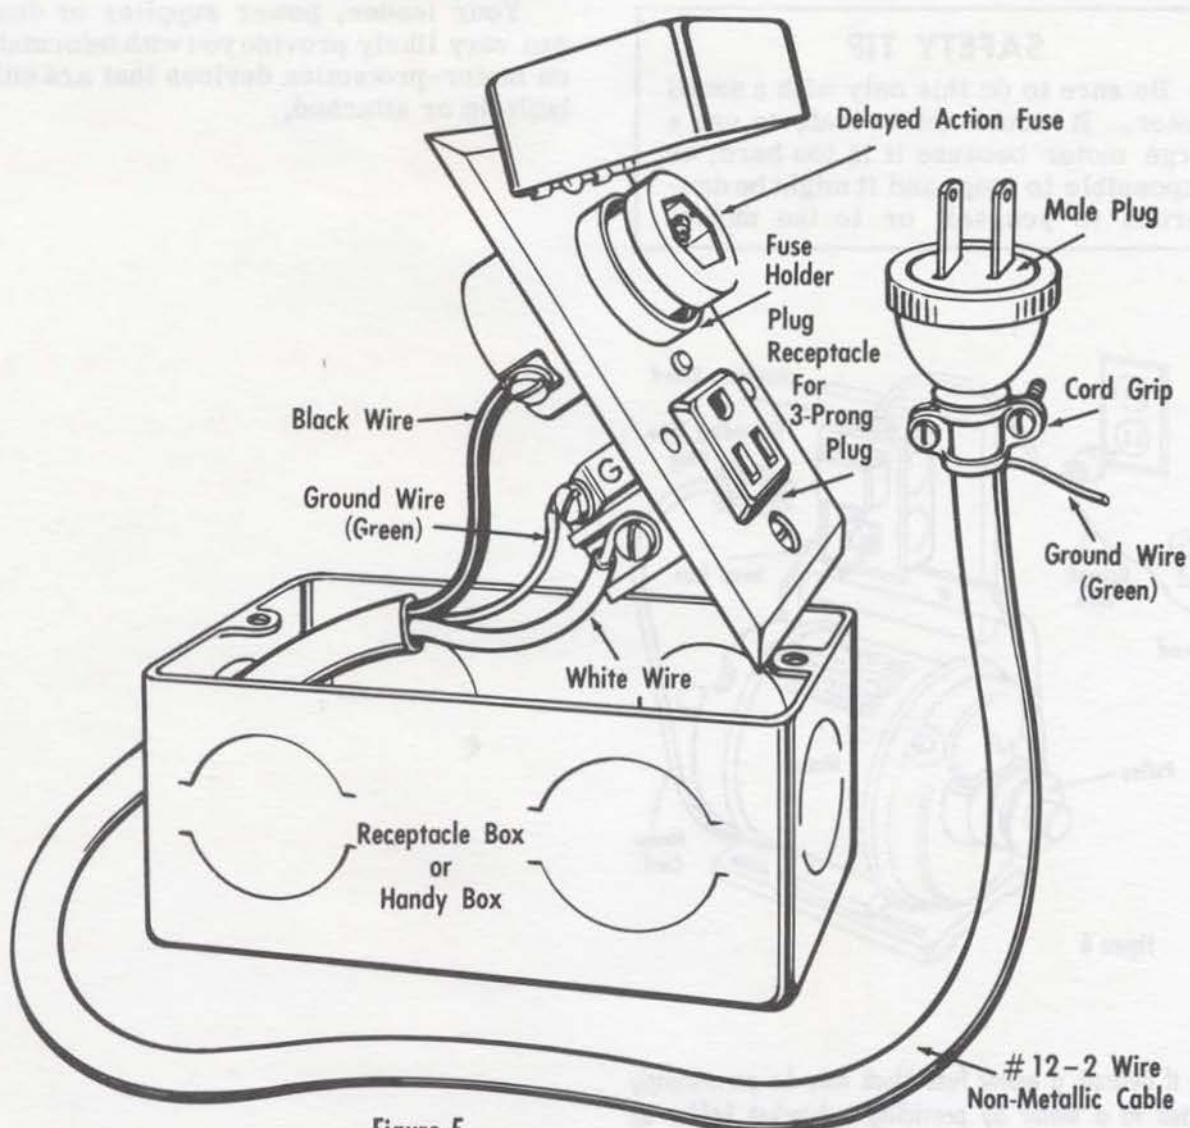
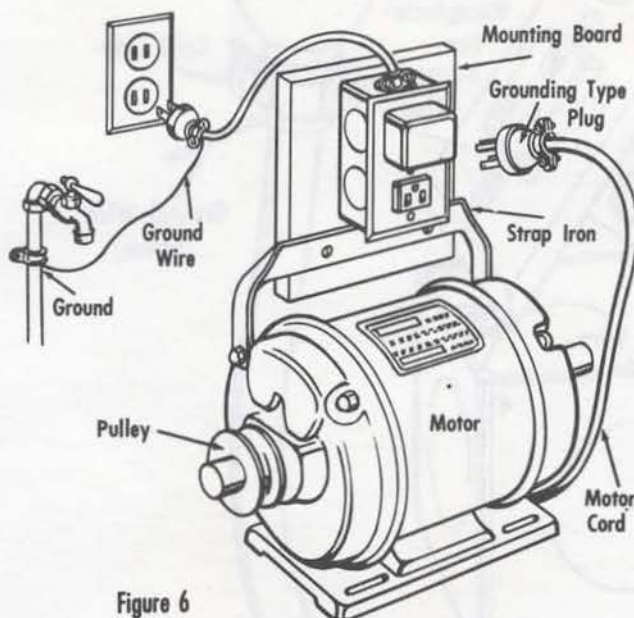

Figure 5
Figure 6
In the Fuse Box: (Fig. 5)
6. At plug end of wire, connect the bare copper ground wire (Fig. 5) to the electrical ground for the building. This may be done through either a ground wire, the armor of armored cable, or a conduit. If metal water pipes are connected to the electrical ground, you may connect the ground wire to a metal water pipe. (See Fig. 6) If none of these grounding conductors is available, you will need to run a ground wire to the electrical ground for the building.
7. Plug the fuse block into the wall outlet. (See Fig. 6) You can now see that when you insert the 3-prong motor plug into the
Note: If desired, a motor fuse block may be permanently mounted to a motor by providing a bracket holder as indicated in Fig. 6